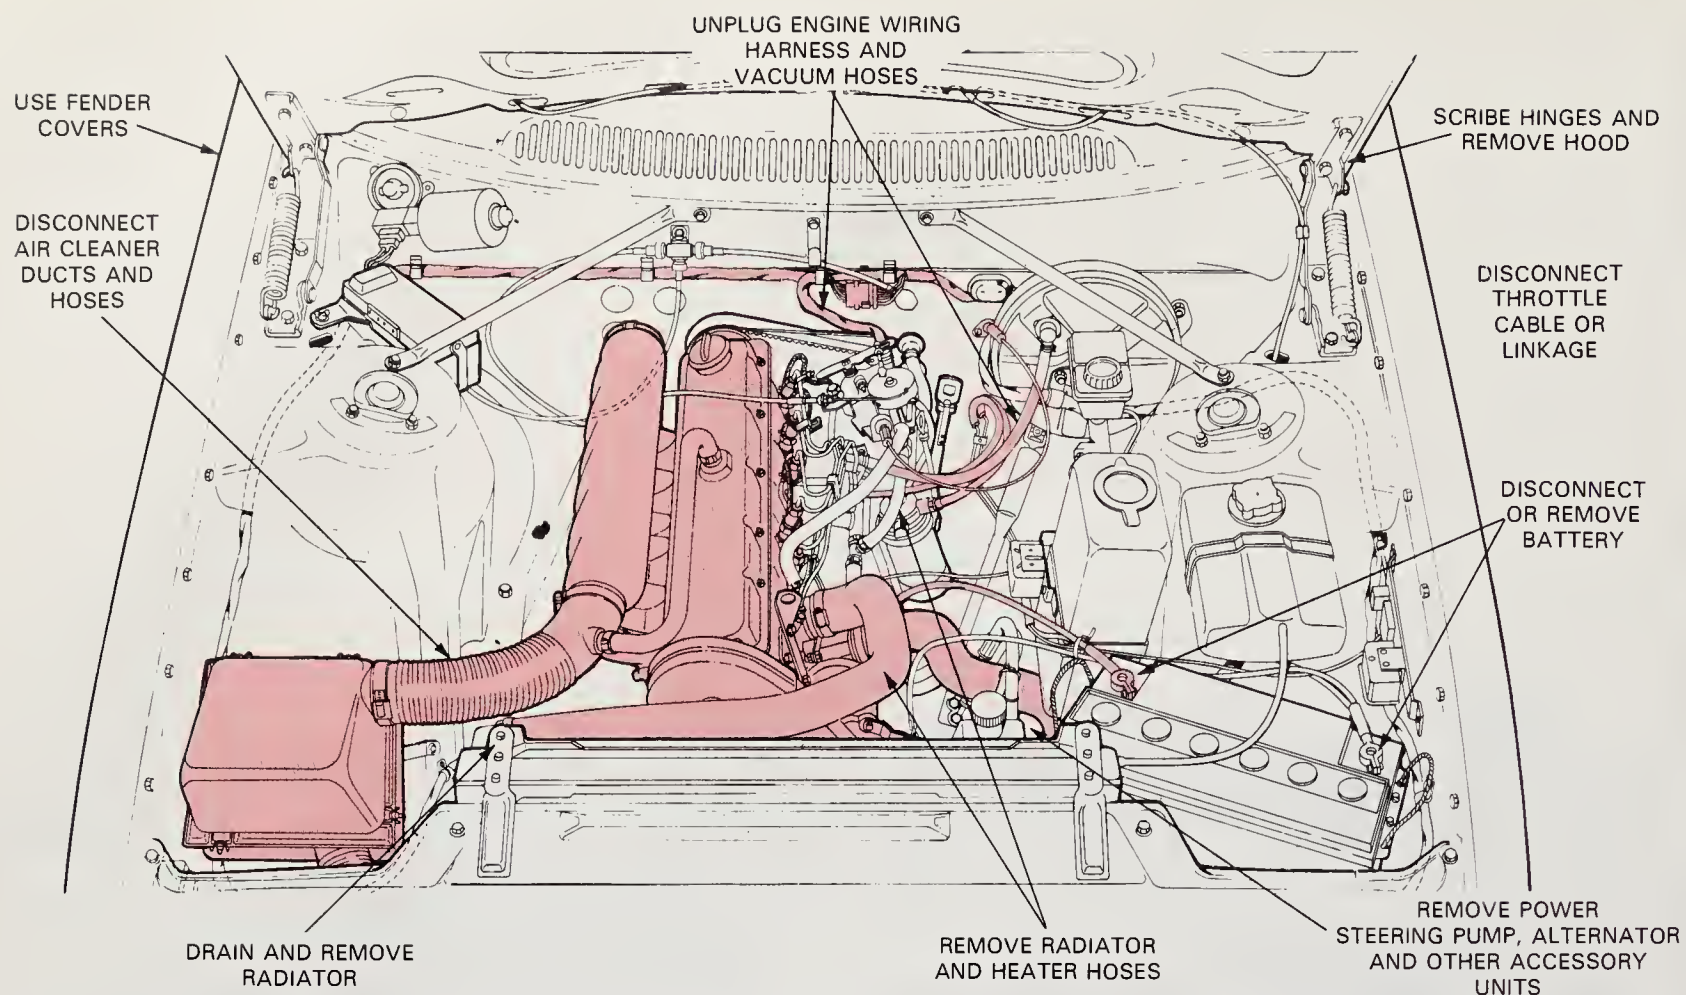

Fig. 46-1. These are many of the components that must be disconnected in upper area of engine compartment before engine removal. (Volvo)
3. Scribe the hood hinges to aid realignment, Fig. 46-1. Then have someone help you remove the hood. Store the hood in a safe place.